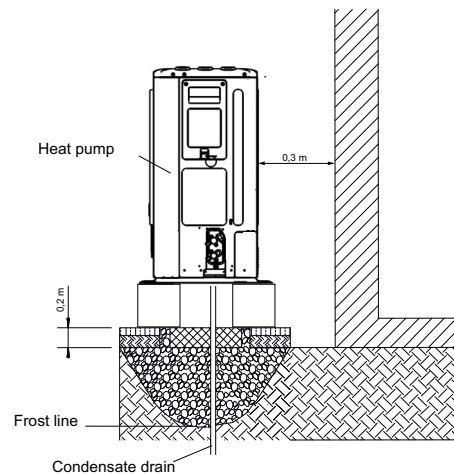
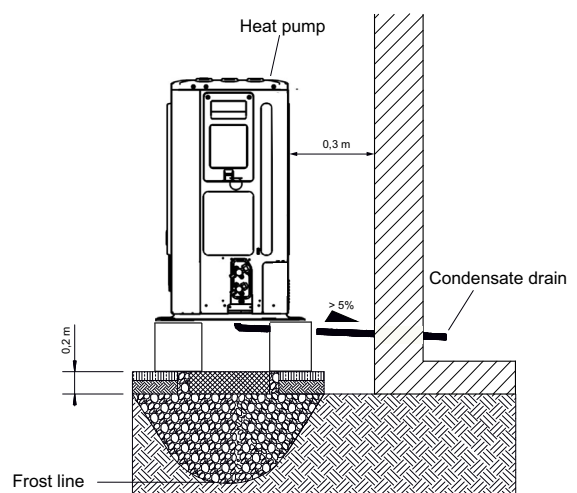

Abb. 5.2
Abb. 5.3
- It is advisable to install the outdoor unit close to a wall, on a foundation separate from the building with a minimum clearance of 0.3 m on the intake side (Fig. 5.2 + Fig. 5.3).
- The minimum clearances (Fig. 5.2) indicated must be adhered to.